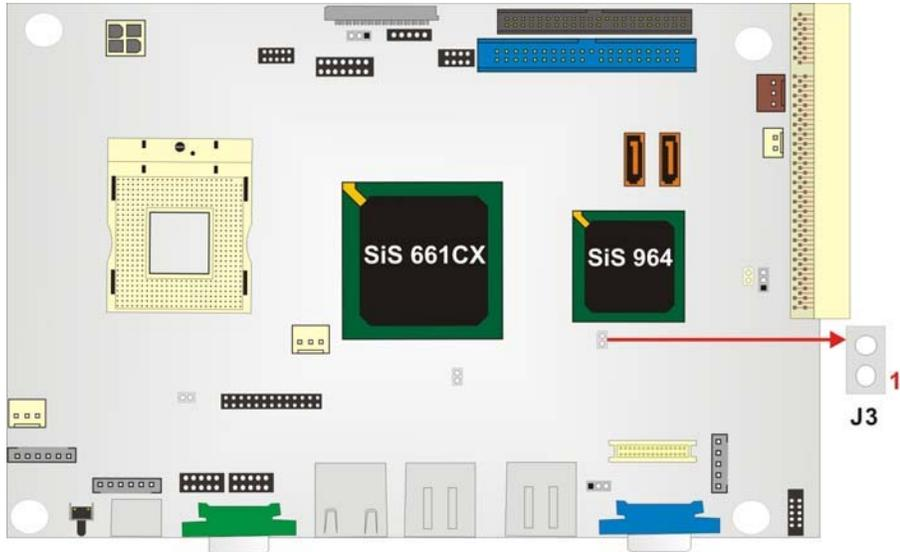

Figure 3-32: J3 Pinout Locations
- Jumper Settings:** See Figure 3-32
The CF Card Setup jumper location is shown in **Figure 3-32**.